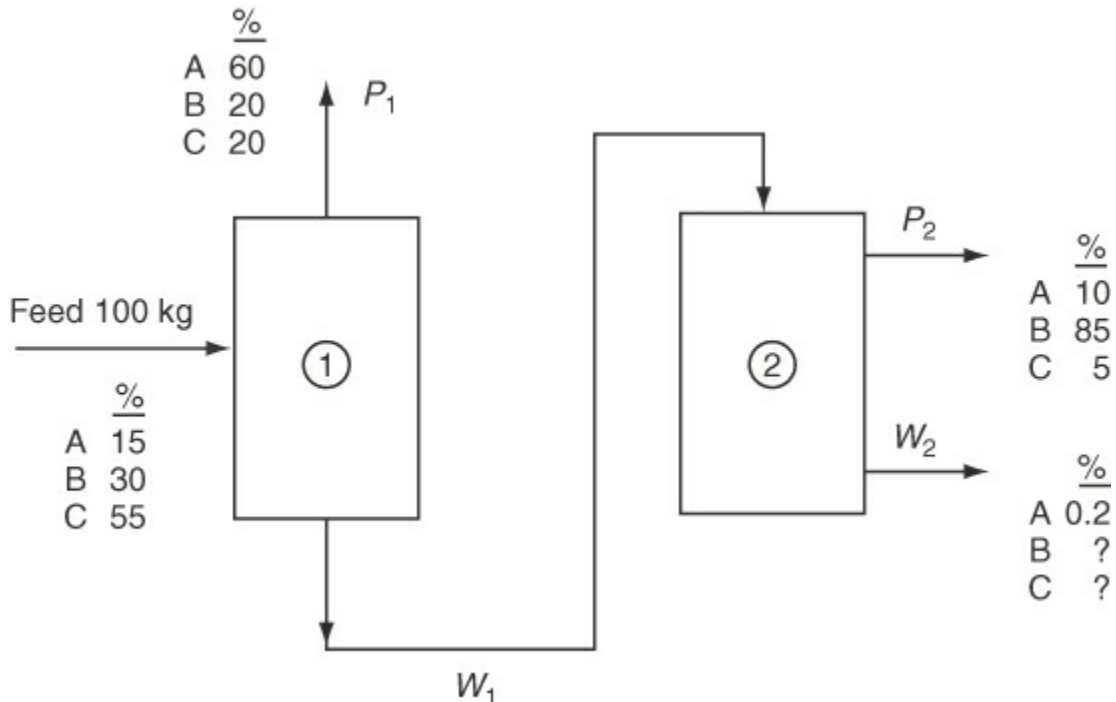

Figure P5.1.6
*****5.1.6** In Figure P5.1.6 you see two successive liquid separation columns operating in tandem in the steady state (and with no reaction taking place). The compositions of the feed and products are as shown in the figure. The amount of W_2 is 20% of the feed. Focus only on the material balances. Write down